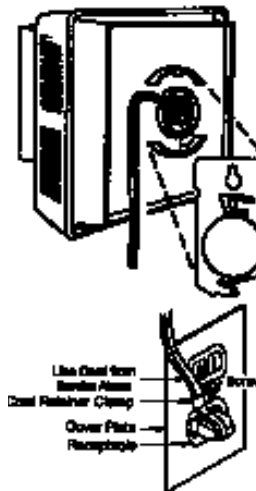

Figure 6
1. Connect line cord to unit as demonstrated in Figure 6.
5. Use the enclosed cord retainer clamp as illustrated in Figure 6 to insure the unit is not accidentally disconnected.